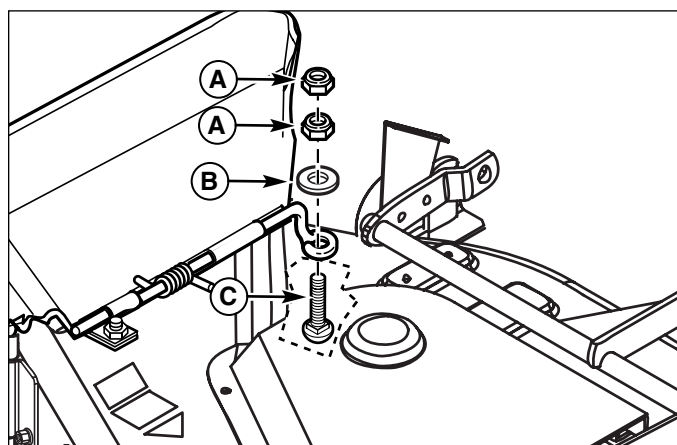

Figure 6. Carriage Bolt Removal
8. Install 1/4-20x 1-1/2 carriage bolt (C, Figure 6) securing with 1/4 washer (B) and one 1/4-20 locknut (A) as shown. Connect second 1/4-20 locknut (A) to carriage bolt (C) until the top of the locknut (A) is flush to the top of carriage bolt (C).